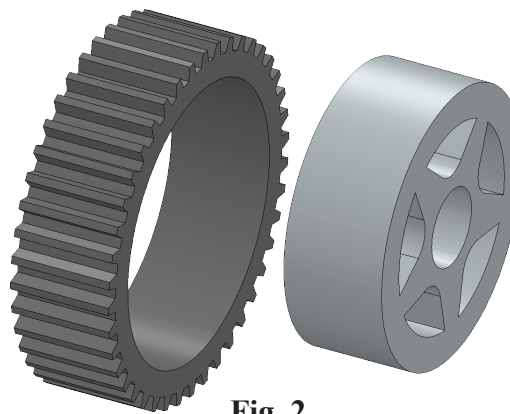

**Fig. 1**
click **Keep Visible** , **Fig. 1**
- Step 4. Click **Browse** in the Property Manager, **Fig. 1**.